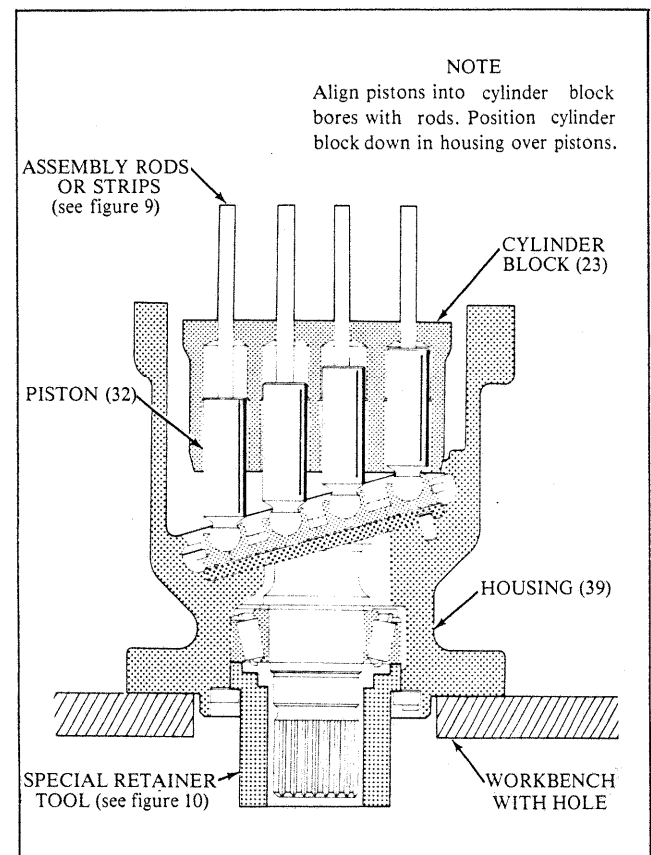

Figure 15. Piston/Cylinder Block Assembly
9. Install shaft (15) and bearing (13) into housing (39).
10. Install retainer tool (see special tool section) over spline end of shaft and into housing (39). This will hold shaft during installation of cylinder block (23). Secure the retainer with screws (1).
11. Obtain assembly rods noted in special tool section. Lubricate cylinder block bores and feed pistons into cylinder block. See Figure 15 for assembly instructions.
12. Install bearing spacer (20a) if required and cone (20) (small diameter up) on end of shaft.
13. Install valve plate pin (22) into valve block (18) if removed during disassembly. Make sure pin (22) is bottomed out in valve block (18).
14. Install valve plate (21) over valve plate pin (22) and against face of valve block (18). Use a little viscosity improver on back of valve plate to prevent separation from valve block during installation. Make sure valve plate is flush against valve block. Lubricate face of valve plate and cylinder block with hydraulic fluid.
15. If roll pins (24) were removed during disassembly, install roll pins (24) into housing (39). Be careful not to damage housing face when installing roll pins.